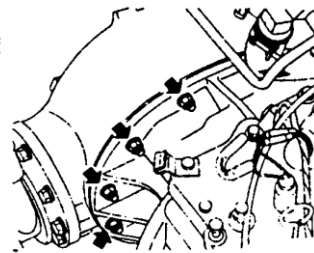

Fig.2-8
- k) Remove nuts securing axle case to differential gear carrier. (see fig.2-8) .